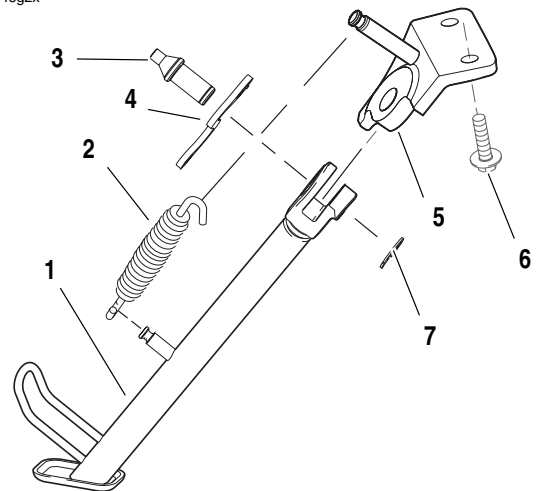

**Figure 3-20. Clutch Cable Wire Form Retainer, Retaining Clamp and Adjuster Boot**
29. See Figure 3-20. Disconnect clutch cable.
- b. Slide clutch cable adjuster boot (2) up to access clutch adjuster.